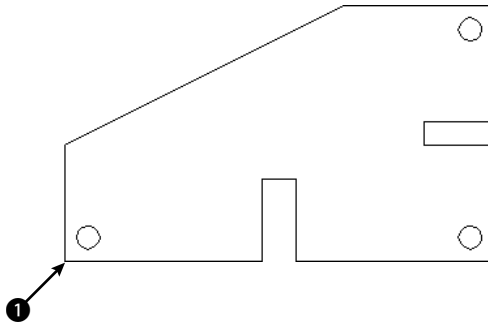
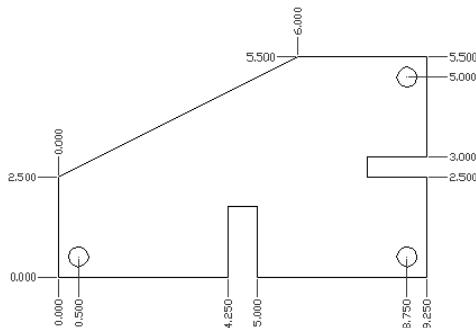

Figure 14-21: A sheet-metal template.
Figure 14-22: The dimensioned template.
2. Save the file as `ab14-05.dwg` in your AutoCAD Bible folder. This drawing shows a simple sheet-metal template, as shown in Figure 14-21. Snap should be on. Set a snap distance of 0.25 units. Right-click the SNAP button on the status bar and make sure that grid snap is on. If the Dimension toolbar isn't visible, right-click any toolbar and choose Dimension.
3. Choose **Tools** ⇨ **New UCS** ⇨ **Origin**. At the **Specify new origin point <0,0,0>:** prompt, pick **1** in Figure 14-21.
4. Choose Ordinate from the Dimension toolbar. At the **Specify feature location:** prompt, choose **1** in Figure 14-21. At the **Specify leader endpoint or [Xdatum/Ydatum/Mtext/Text/Angle]:** prompt, pick a point 0.5 units to the left of **1**, as shown in Figure 14-22. (Because Snap is on, this is easy. If necessary, click the coordinates at the lower-left corner of the screen until you get polar coordinates to display in the lower-left area of the drawing screen.)
5. Repeat the DIMORDINATE command. At the Specify feature location: prompt, choose ❶ in Figure 14-21. At the Specify leader endpoint or [Xdatum/Ydatum/Mtext/Text/Angle]: prompt, pick a point 0.5 units below ❶.
6. Continue to dimension the drawing, using Figure 14-22 as a guide.